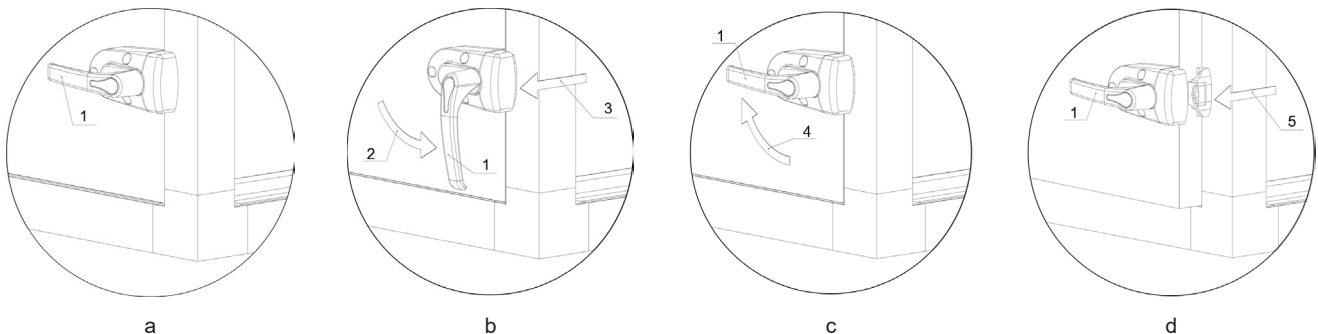

Figure 9.5.1. (a, b, c, d) – AmberAir access door opening sequence.
Access doors of AmberAir air handling units are equipped with a door handle with over-pressure protection. Refer to Figure 9.5.1 a) which shows handle in closed position. Locking mechanism of access panel is on the outer side of the unit.
Door opening sequence (Figure 9.5.1):
2. Turn handle 1 in direction 2 (Figure 9.5.1 b).
4. Turn handle in direction 4 (Figure 9.5.1 c).
6. Pull handle in direction 5 to open the access door (Figure 9.5.1 d).